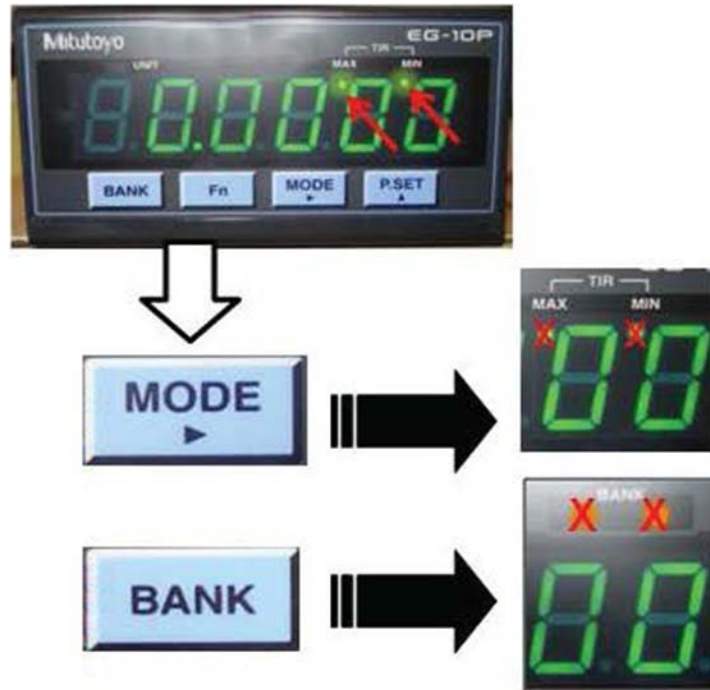

Figure B8
- 4.5 With reference to Figure B8, make sure that, on the test bench, no function (MAX, MIN, TIR or BANK) is active. If one of the LED function indicators is on (the function is active) operate the keys "MODE" and "BANK" until all LED function indicators go off (all function not active).